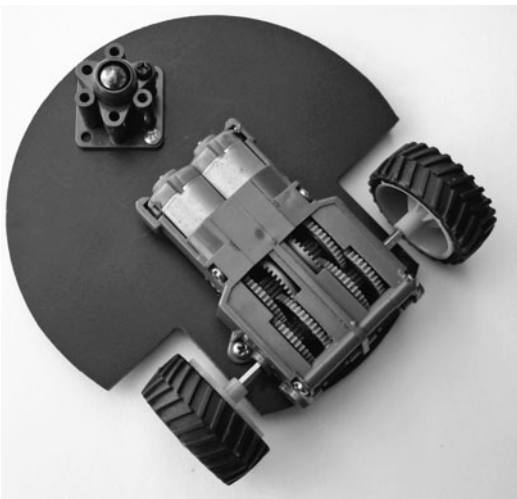

Figure 26-7 Underside of the BasicBot, showing the twin motor gearbox and ball caster.
5. Mount rubber tires onto two of the truck tires, then insert the wheels over the motor shaft. Figure 26-7 shows the underside of the BasicBot, with motor and ball caster attached.